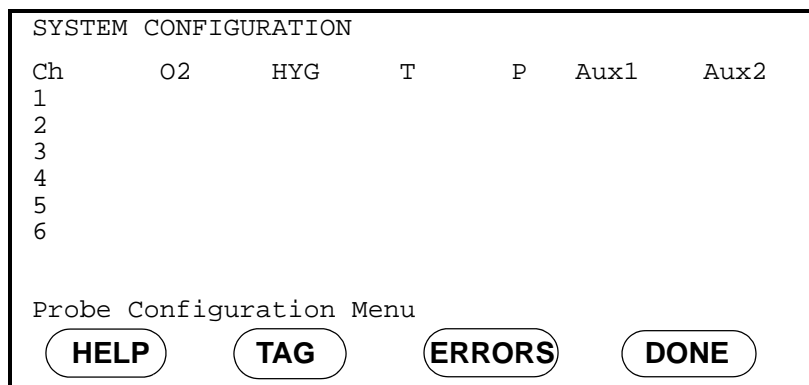

Figure 11: Probe Configuration Menu
1. Enter the Probe Configuration Menu (for a menu map, refer to Figure 47 on page 84). A screen similar to Figure 11 appears.